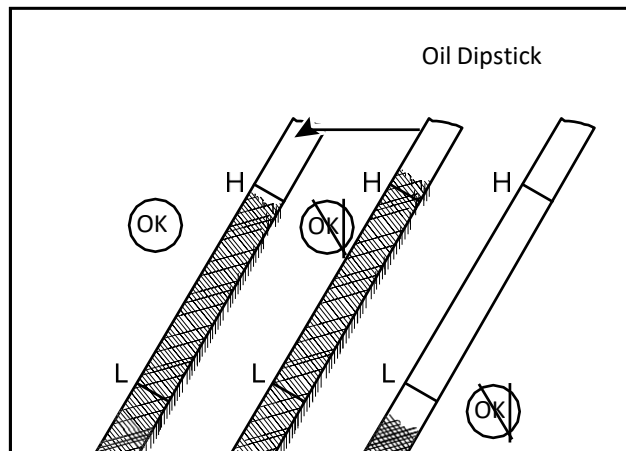

Figure 9
- b) Remove the dust cap from the oil drain valve fitting (Figure 9) and attach a collection hose to the fitting. Drain the oil into a suitable container. When the oil has completely drained, close the valve, remove the hose, and reinstall the dust cap. Dispose of the drained oil in accordance with environmental regulations.